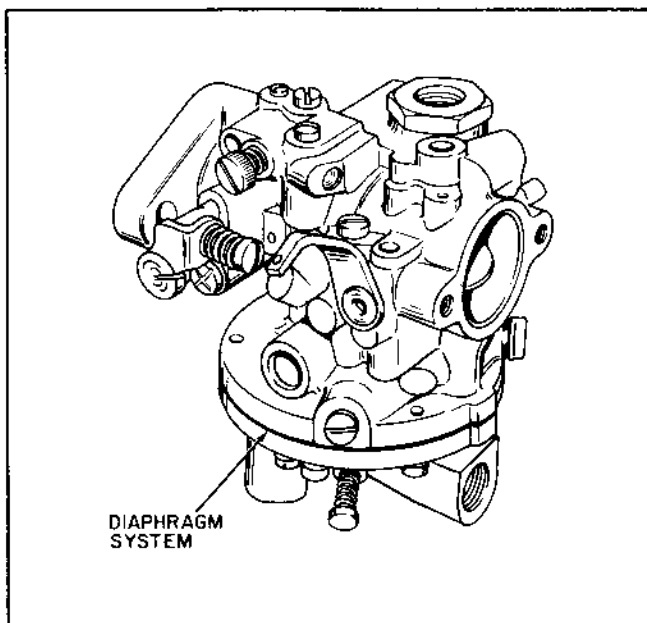

Figure 2-2
C. DIAPHRAGM (PRESSURE DIFFERENTIAL) CARBURETORS (Fig. 2-2).